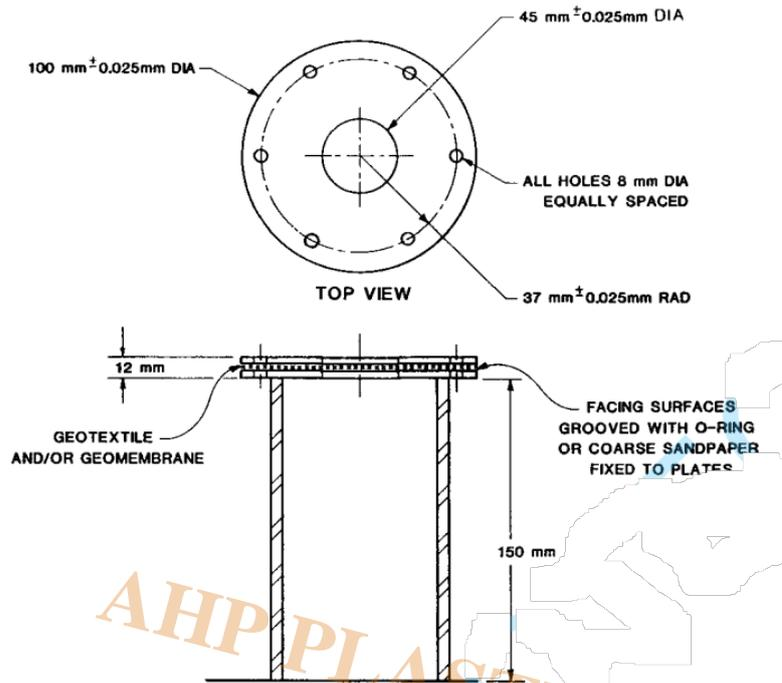

FIG. 2 Test Fixture Detail (Not to Scale)
6.2 Ring Clamp Attachment, consisting of concentric plates with an open internal diameter of 45 ± 0.025 mm (1.772 ± 0.001 in.), capable of clamping the test specimen without slippage. A suggested clamping arrangement is shown in Fig. 1 and Fig. 2. The external diameter is to be a minimum of 100 (3.937). The diameter of the six holes used for securing the ring clamp assembly is suggested to be 8 mm (0.315 in.) and equally spaced at a radius of 37 mm (2.95 in.). The surfaces of these plates can consist of grooves with O-rings or coarse sandpaper bonded onto opposing surfaces.